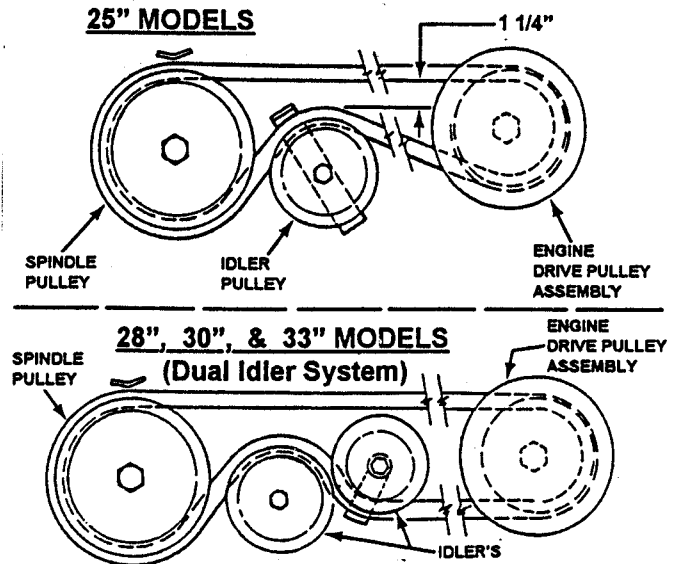

FIGURE 3.5
- On 25" model, measure the distance between belt at idler pulley. See Figure 3.5. The belt spacing should be 1-1/4" but no less than 1". If less than this, refer to Section 4.2.1. MOWER DRIVE BELT ADJUSTMENT on page 13.